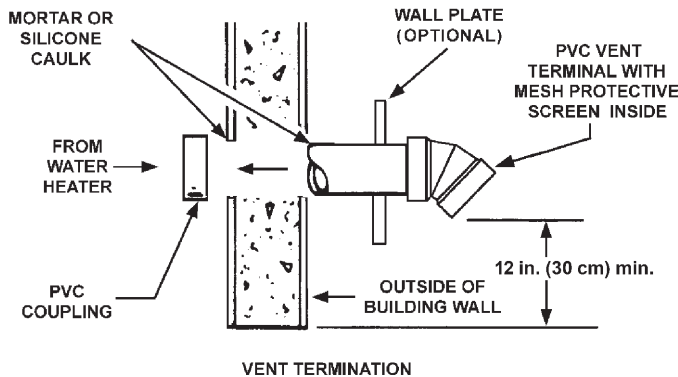
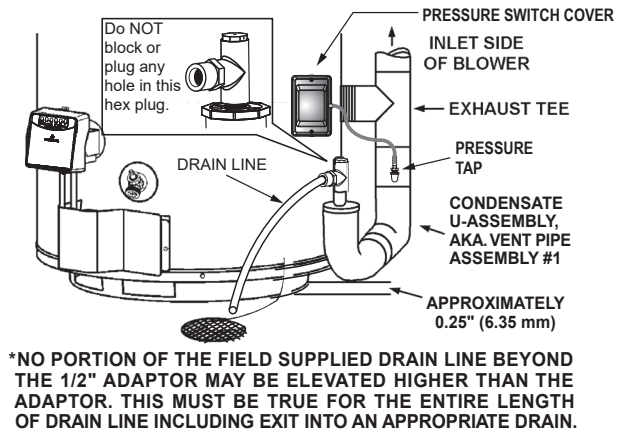

Figure 16. Sidewall Vent Termination
Figure 25. Condensate Drain Configuration
5. Slide the pipe through the wall and insert into the coupling on the other side of the wall, making sure that the vent terminal ends up pointed in the correct position. See *Figure 16*.
It is recommended that the completion of the venting system start at the blower assembly and run to the coupling on the inside wall of the vent terminal. See *Figure 16*.
The preferred orientation of Vent Pipe Assembly #1 (Condensate U-Assembly) is shown in *Figure 16*. However this assembly may be rotated to a different orientation as needed for the specific installation requirements. Note the rotational orientation of each part by marking a line several inches long across the joints. The long tube of Vent Pipe Assembly #2 should be approximately vertical. If it is found that either of the two pieces of pipe in Vent Pipe Assembly #2 are too long for proper fit-up, then remove as little material as possible to improve the fit-up. Keep in mind that the pipes will insert slightly further into the elbows when cement is applied as it acts as a lubricating agent. The vertical distance from the bottom of the Condensate U-Assembly to the floor that supports the water heater should be approximately 0.25" (0.64 cm). See *Figure 25* (page 28). Disassemble the parts and cement back together using the alignment marks. After the cement dries, attach the assembly to the blower and the water heater exhaust using the supplied rubber boots and hose clamps.
This water heater is a condensing unit and requires a drain to be located in close proximity to allow condensate to drain safely. One hose from blower housing and two flexible hoses from blower outlet adaptor run to barb fittings on vent pipe assembly #2. Hose is clamped by rubber clips and flexible hoses by a clamp on jacket top cover. See **Figure 15** (page 21). Condensate drains from the unit at the exhaust tee located at the bottom of the unit. See **Figure 25**. Condensate from this water heater is mildly acidic. Please note that some local codes require that condensate is treated by using a pH neutralizing filter prior to disposal.
Note: It is important that the field supplied drain lines beyond the 1/2" adaptor of vent pipe assembly #1 should be installed continuously tilted downward toward an appropriate drain. See **Figure 25**. If these instructions are not followed or if condensate drain line is blocked, water will spill from condensate trap. Do not block the holes in the hex plug on top of a small tee in vent pipe assembly #1. As with every water heater installation, a drain pan should be used to prevent water damage to surrounding area. If necessary, a condensate pump with an incorporated reservoir may be used to pump water to an appropriate drain. To avoid condensate spillage, select a pump with an overflow switch.